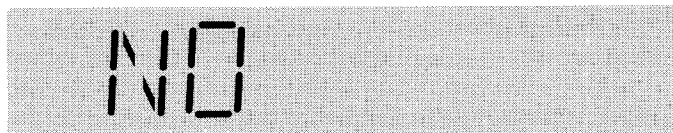

Figure 4-13 No Alarms Display
When the **Alarms** menu is accessed, a **No Alarms** message is displayed if no alarm is stored in memory (Figure 4-13). If one or more alarms are stored in memory, the device address, device description, and alarm
- Step 5:** Use the **Up** or **Down** pushbuttons to access older stored "Alarm Messages." They would also be identified in a manner similar to Figure 4-13.